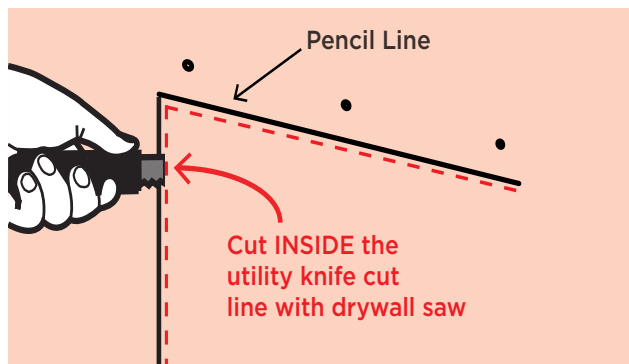

Figure 5.
7. With a drywall saw, cut the drywall on the INSIDE of the utility knife cut made in step 6 above. This ensures the clean, sharp edge of the cut made with the utility knife is maintained. See Figure 5 below.